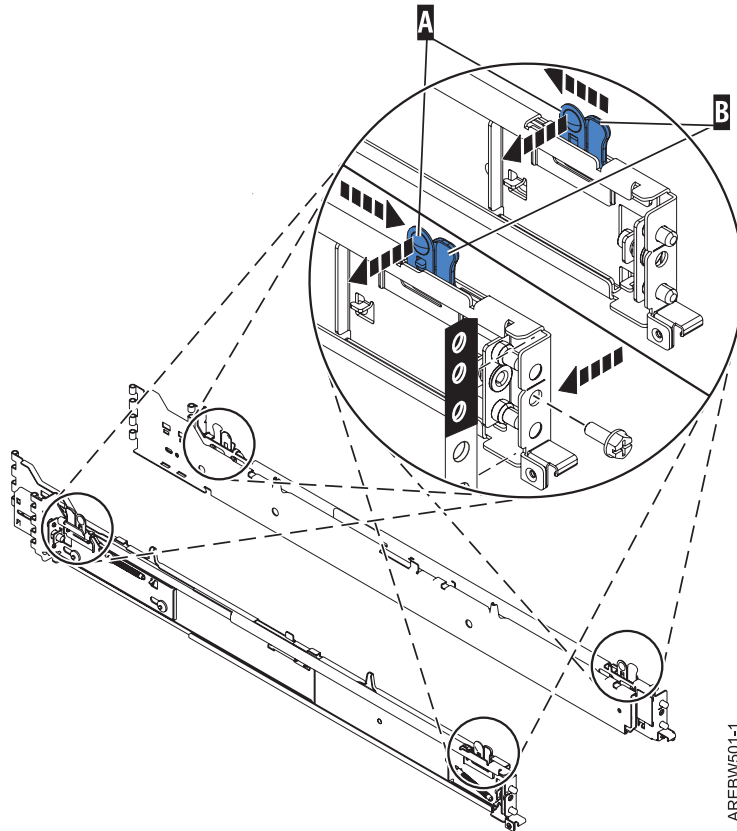

Figure 50. Front slide rail alignment pin, retaining screws, and latch bracket
1. With the right rail, twist the latch assembly release tab (**A**) in Figure 50 on page 48. Slide release tab (**B**) back to the retracted position and lock the latch assembly. The back-alignment pins must be fully retracted.
2. After the alignment pins are retracted, insert the right side rail front-alignment pin, as shown in Figure 50 on page 48, into the rack front flange hole. This hole is identified by the mark that you previously made. Have a second person hold the rail securely in the front hole.